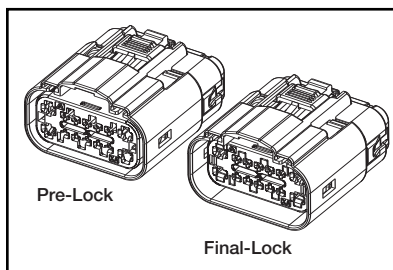

FIGURE 1
- Make sure TPA is in the “pre-lock” position in the female housing. See Figure 1.
- Once all the terminals are inserted in the correct position, then press the TPA into the “final lock” position as shown in Figure 1. If the TPA will not move into the final-lock position, verify that all terminals are fully seated.